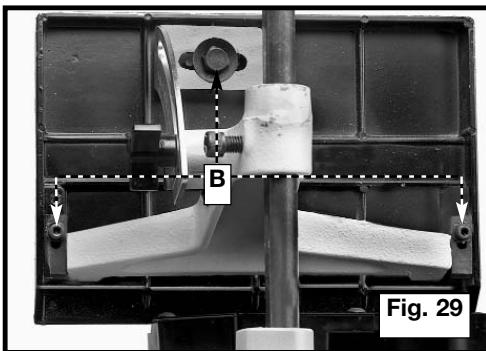

Fig. 29
2. To adjust, loosen the three screws (B) Fig. 29 that fasten the table to the table mounting bracket and trunnion. Adjust the table accordingly - then tighten the three screws (B).